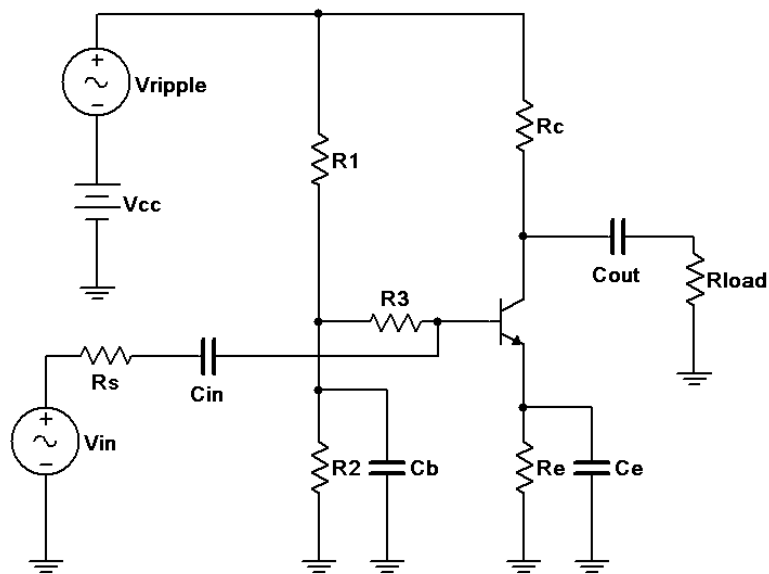

Figure 9.2
12. One issue with amplifiers is noise and ripple on the power supply. This will be directly coupled to output of the circuit via the collector resistor. Worse, this noise or ripple may be coupled into the base and then amplified along with the desired input signal. This can be an issue with amplifiers that use a voltage divider bias. One way to reduce this effect is to decouple the voltage divider from the base. This modification is shown in the circuit of Figure 9.2.  $C_b$  effectively shorts  $R_2$ , sending power supply noise and ripple to ground instead of into the base. By itself this would also short the desired input signal so an extra resistor,  $R_3$  is added between the capacitor and the base. The input impedance of the circuit is approximately equal to  $R_3$  in parallel with  $\beta r'_e$ . To show the effectiveness of this technique, build the circuit of Figure 9.2 in Multisim. Use  $V_{in} = 20$  mV peak at 1 kHz,  $V_{ripple} = 20$  mV peak at 120 Hz,  $V_{cc} = 12$  volts,  $R_s = 1$  k $\Omega$ ,  $R_1 = 10$  k $\Omega$ ,  $R_2 = 3.3$  k $\Omega$ ,  $R_3 = 22$  k $\Omega$ ,  $R_e = 4.7$  k $\Omega$ ,  $R_c = 3.3$  k $\Omega$ ,  $R_{load} = 1$  k $\Omega$ ,  $C_{in} = C_{out} = 10$   $\mu$ F,  $C_b = 100$   $\mu$ F and  $C_e = 470$   $\mu$ F. Run a Transient simulation and look at the load voltage. A very small low frequency variation should be noted. This is the 120 Hz ripple coupled in through the collector resistor. Alter the circuit by removing  $C_b$  and  $R_3$  to produce the basic voltage divider circuit (or more simply, set  $C_b$  and  $R_3$  to extremely small values such as pF and m $\Omega$ ). Rerun the simulation. The load voltage should now show a much more obvious ripple contribution, thus showing how effective the power supply decoupling components can be.